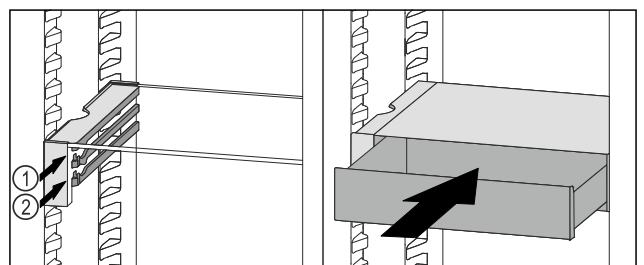

Fig. 80
- Place the VarioSafe drawer behind the stoppers on desired rib Fig. 80 (1) or Fig. 80 (2).